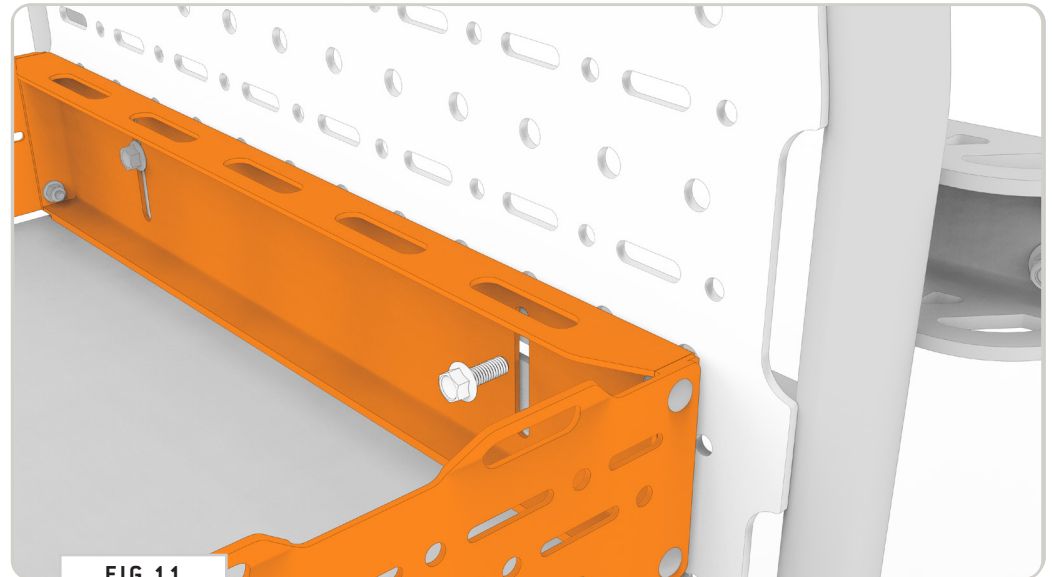

FIG 11
3.4 Insert Bolts Through Mounting Holes (Optional): Insert (1ea) 3/8-16 x 1" Flanged Hex Head Screws to the mounting holes of your *Storage Box Topper* (FIG 11).